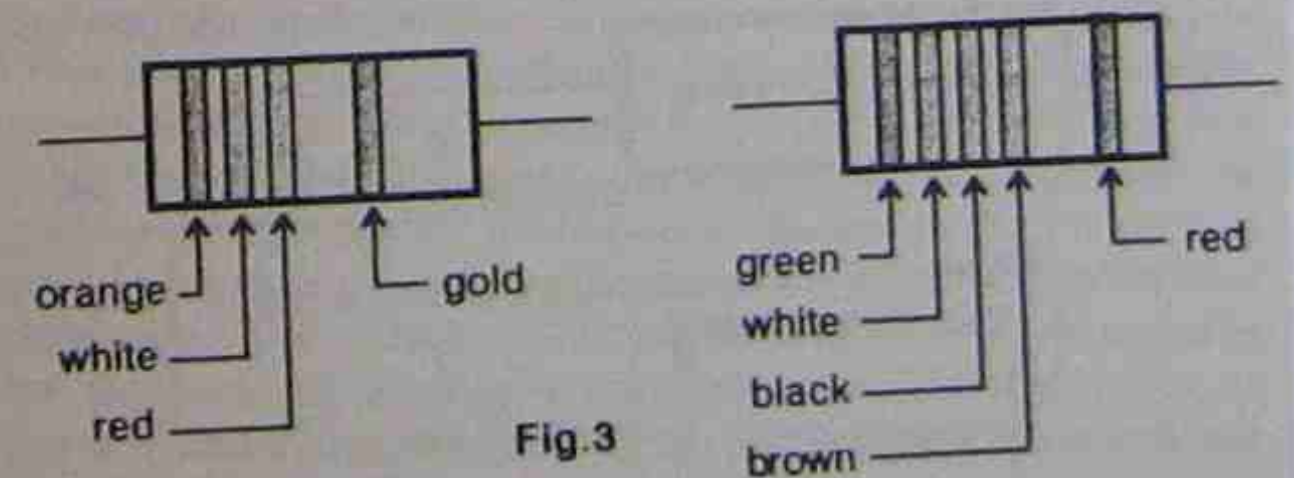

Fig.3
4. Determine the values of the resistors shown in Fig.3.